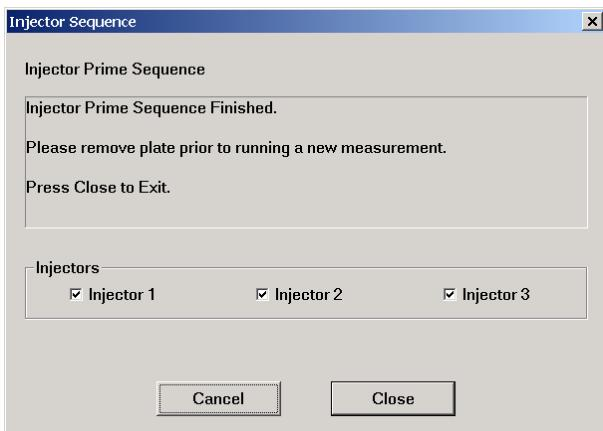

Figure 5-14: Finishing the prime process
- If you are working with a prime plate, this plate is automatically moved out as soon as you click <Close>. Remove the prime plate (Figure 5-14).